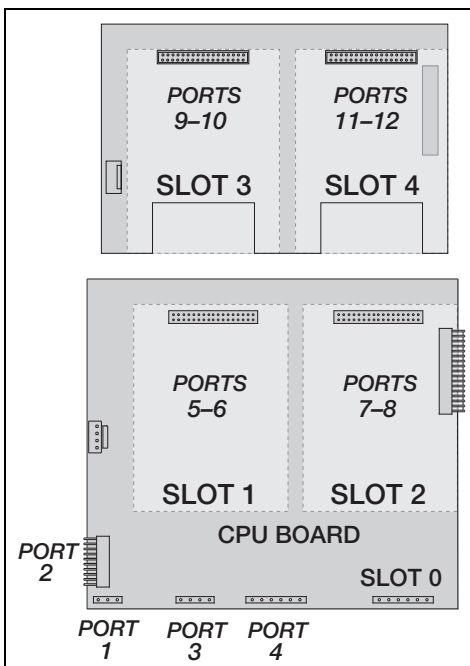

Figure 3-12. Serial Port Assignments, Two-Card Expansion Board
*In a system with a two-card expansion board, port assignments are reserved as illustrated in Figure 3-12. If the only serial card installed in this system is in SLOT 4 of the expansion board, the system consists of serial ports 1-4 (on the CPU board) and ports 11-12.*